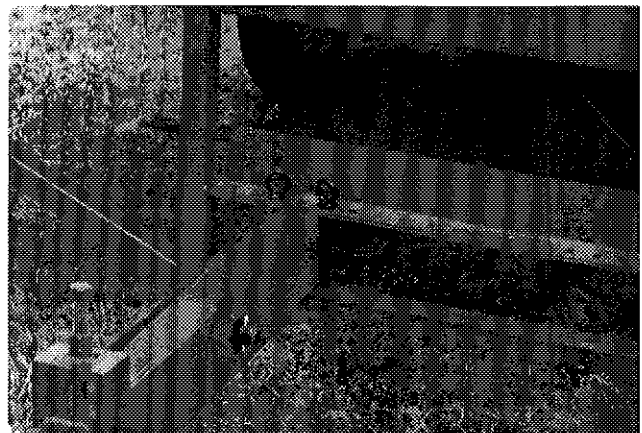

Figure 9
- 5) Hook-up the accumulator to the rear hitch of the press. The hook-up should be at or as near as possible to the center of the bale discharge outlet. Position or line-up the machine in order to have an acceptable angle between the inlet guide tubes and the elevator section to assure free movement of the bales into the elevator section. Usually, the left side of the infeed section should be more or less in line with the left side of the baler. (Figure 8) Lock the tongue in position using the two pins provided. (Figure 9)